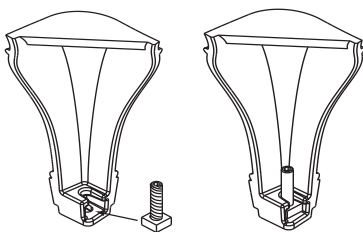
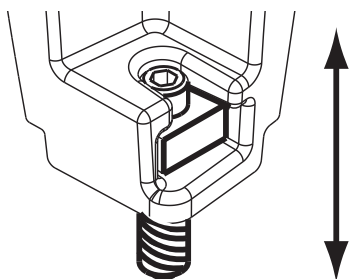

Figure 20.2
Figure 20.3 - Bolt fully extended
2. Slide assembled nuts and bolts into slots on legs with the nuts on the bottom (**Figure 20.2**). Use a 5/32 in. (3.96mm) Allen wrench to adjust legs up and down to desired level (**Figure 20.3**).